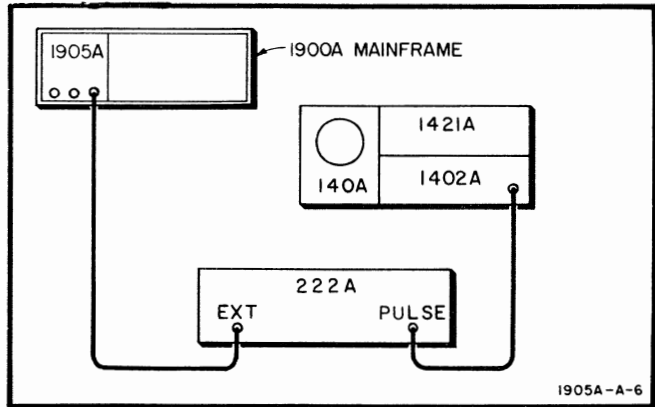

Figure 5-5. Internal Repetition-rate Test Setup
- e. Remove the Model 1410A/1425A plug-ins from the Model 140A mainframe and install the Model 1421A and 1402A plug-ins. Connect the equipment as shown in Figure 5-5.